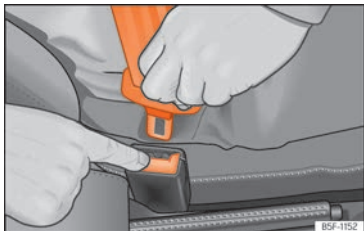

Fig. 11 Release the seat belt's buckle.
- Press the red button on the buckle »»» Fig. 11. The latch plate is released from the buckle.